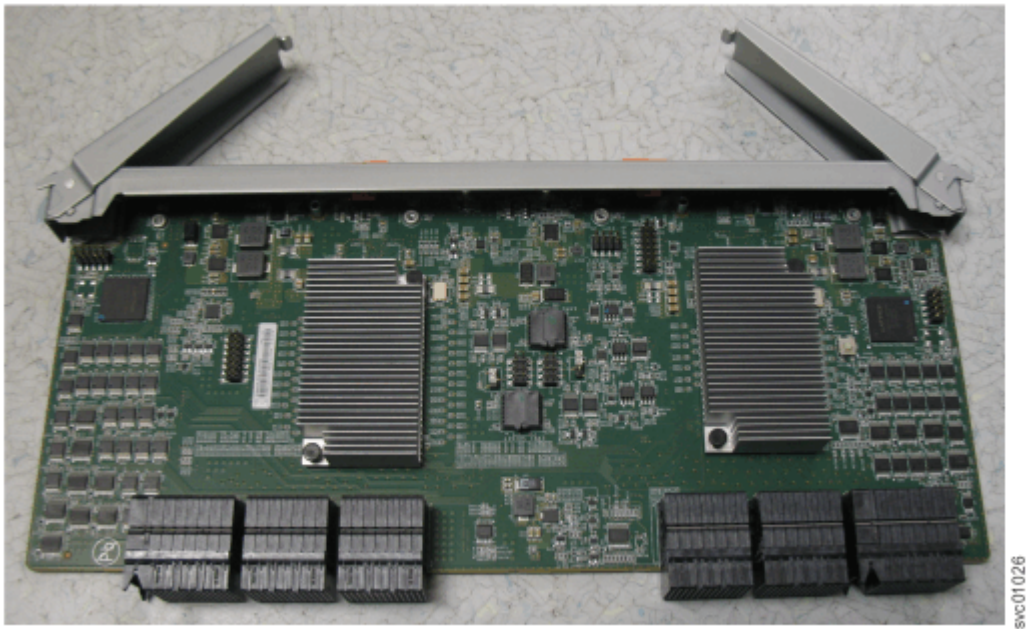

Figure 66. Open the secondary expander module handles
3. Rotate both handles on the new secondary expander module to an open position, as shown in Figure 66 on page 65.